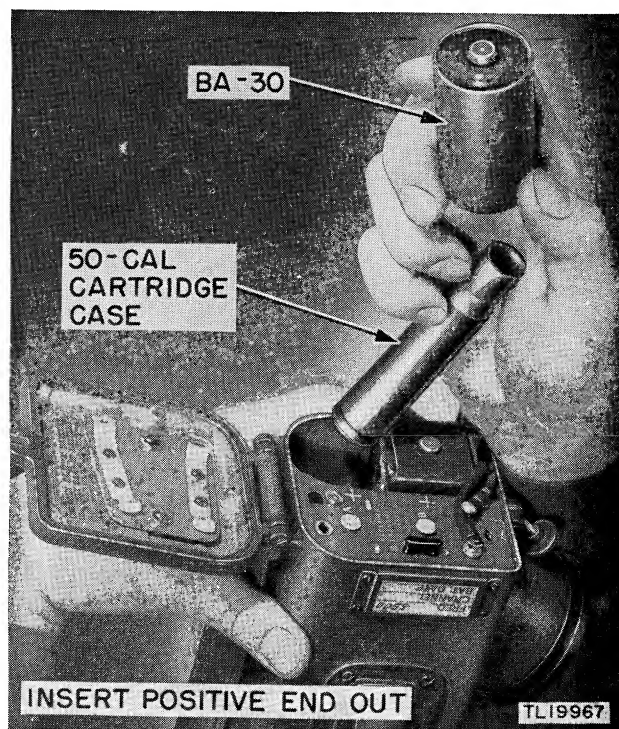

Figure 31. Battery BA-30 and 50-cal cartridge case.
b. EXPEDIENT BATTERY ADAPTER. As an expedient filament supply, a single Battery BA-30, and an expended 50-cal (caliber) cartridge case may be used. (See fig. 31.) This makeshift arrangement will fill the compartment provided for Battery BA-37. Battery life will be considerably reduced (5 hours), therefore suitable provisions must be made to replace the battery promptly as often as necessary to guarantee uninterrupted communication. Both ends of the cartridge case must be kept clean and bright to insure effective electrical contact. Insert